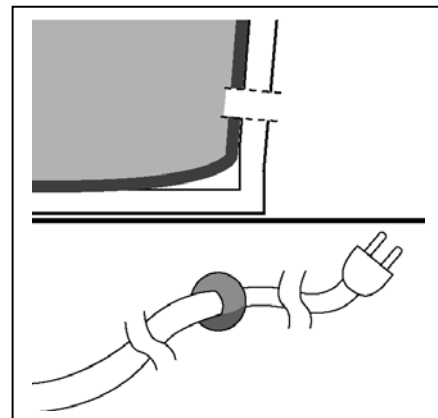

Fig. 7
7. Select a spot on the container wall that is the least visible from normal viewing for the cord exit. Create the hole, using a drill with appropriate bit capable of boring through the container material and large enough so the plug head can pass through. Fig. 7